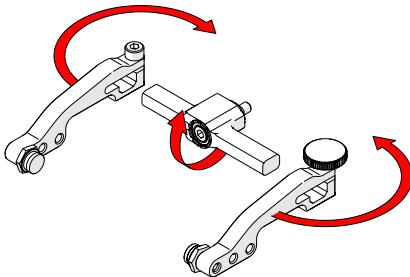

Fig. 105 - Flip yoke and reverse arms
3. Flip the yoke 180° and reverse the probe holder arms (Fig. 105).